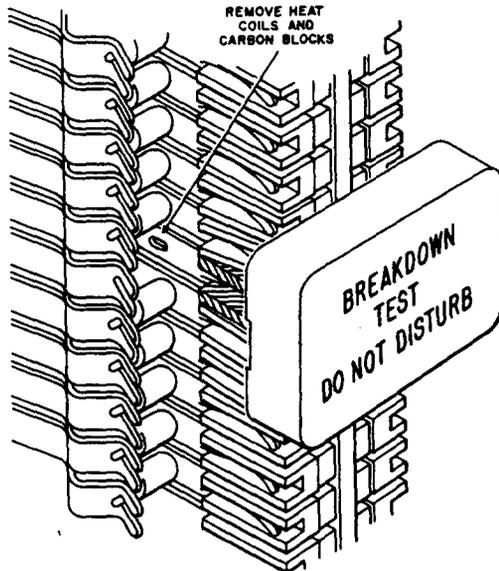

Figure 48—B Warning Marker
6.04 The B warning marker (Figure 48) is a 1-piece, opaque, red thermoplastic unit with white lettering on the base. It is used on C-, E-, 1177-, and 1268-type protector terminals.